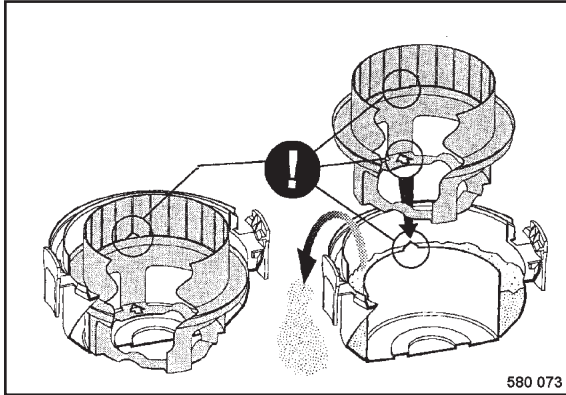

Fig. 165
- Pull the internal part (Fig. 165) out and remove the dust from the cover.